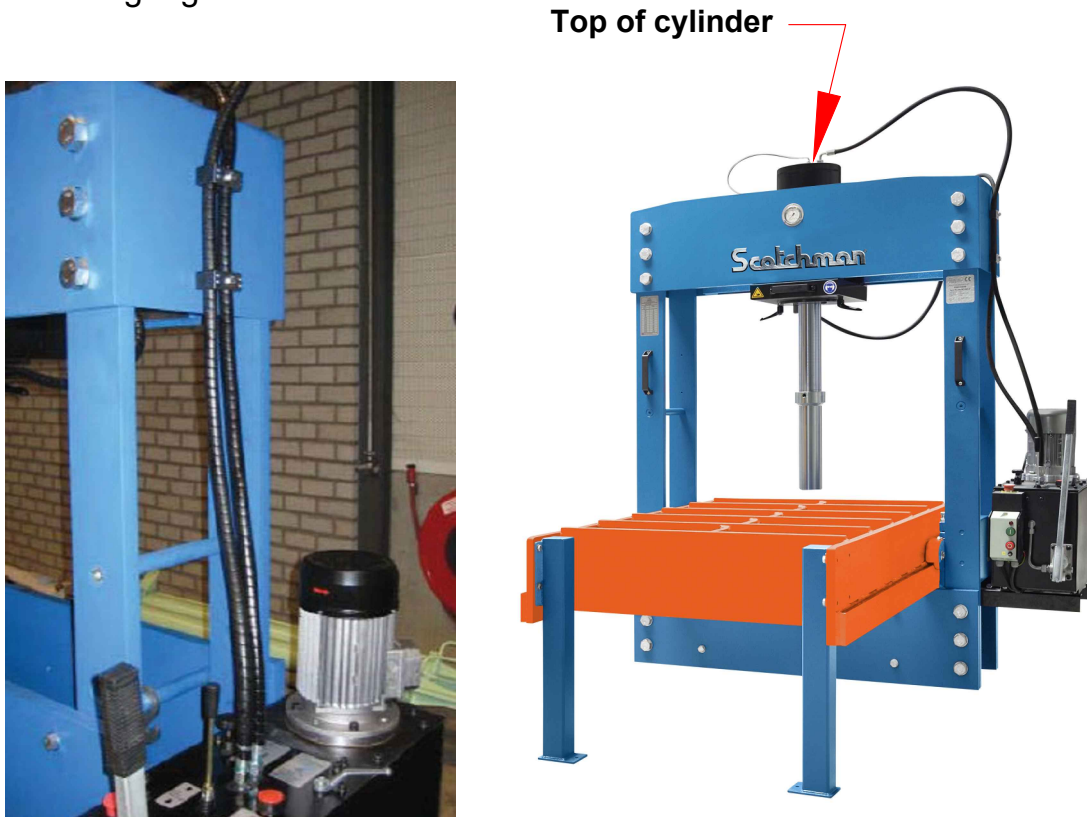

Fig. 6 Keep hoses straight - no sharp bends
Hydraulic Unit is bolted to the brackets with (4) M10 bolts on the bottom. Also See Fig. 6 on the next page for overall view.